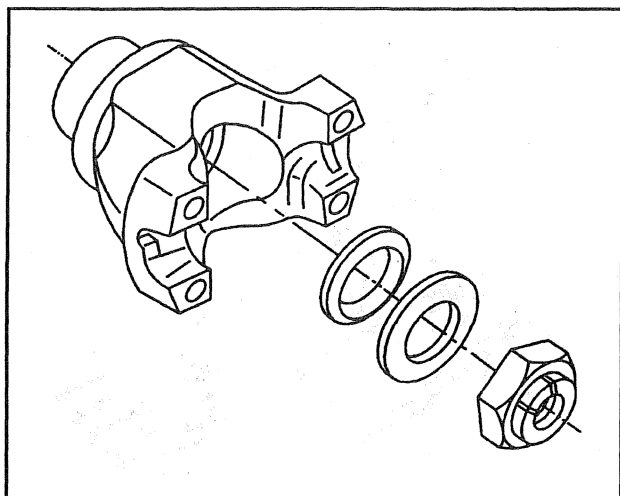

Figure 9—NP 241 Transfer Case Yoke, Nut, and Washers
**Remove or Disconnect (Figures 9 through 11)**
**Install or Connect (Figures 9 through 11)**
- B. Install using J 29162 (figure 9).